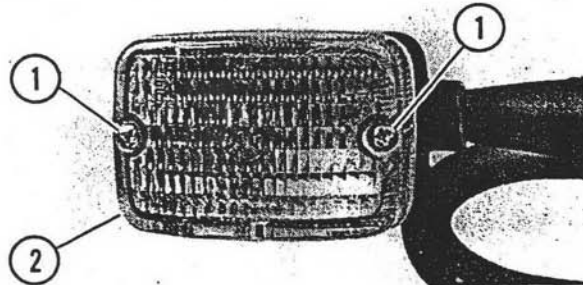

Figure 5-17. Turn Signal
2. See Figure 5-17. Depress bulb (1) and turn counterclockwise to remove.
1. See Figure 5-17. Using a crosstip screwdriver, remove screws (1) and lens (2).